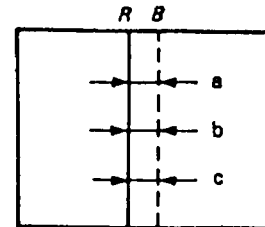

Fig. 3-6
1. Adjust the Y.CROSS (RV1705) and Y.BOW (RV1702), so that RED and BLUE shown in Fig. 3-6 will become $a=b=c$.